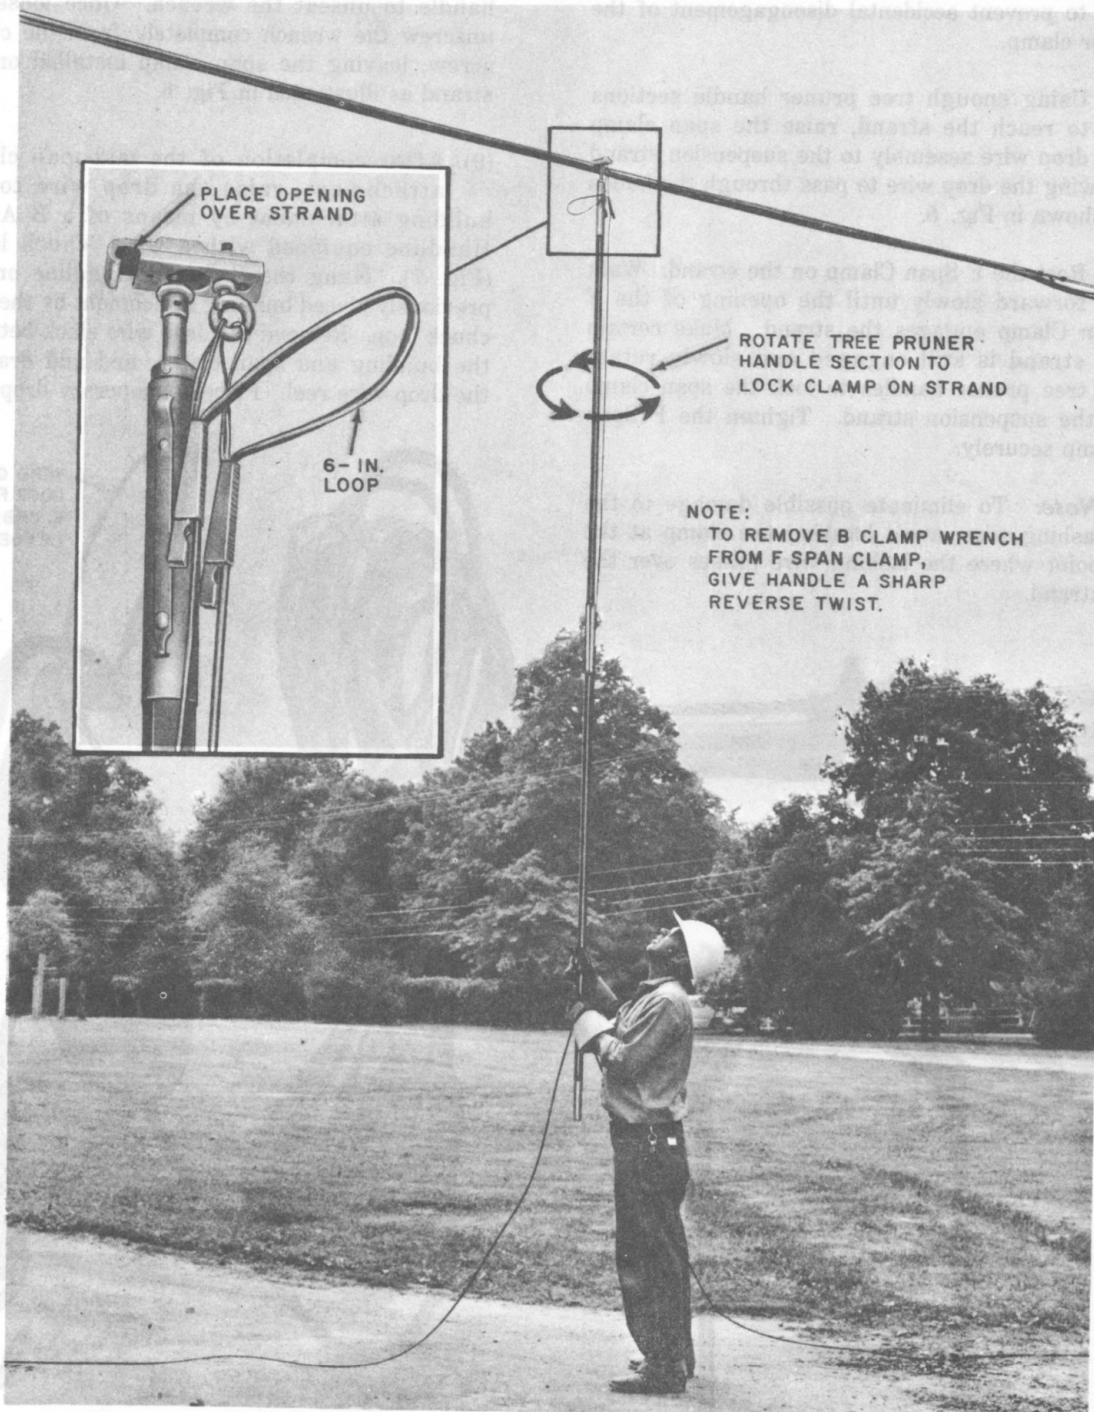

Fig. 5—Raising Span Clamp Assembly to Strand
clamp location on the strand. Leave a 6-inch loop between the drop wire clamps (Fig. 5).
(6) Using enough tree pruner handle sections to reach the strand, raise the span clamp and drop wire assembly to the suspension strand allowing the drop wire to pass through the hands as shown in Fig. 5.
(7) Rest the F Span Clamp on the strand. Walk forward slowly until the opening of the F Span Clamp engages the strand. Make certain the strand is still engaged and slowly rotate the tree pruner handles to lock the span clamp on the suspension strand. Tighten the F Span Clamp securely.